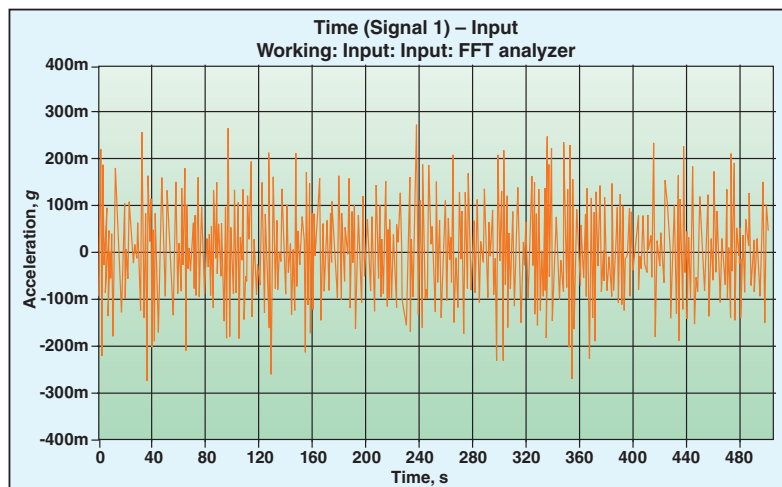

FIGURE 1. Plots of acceleration of the equipment versus time can be used to interpret pump vibration over relatively long time intervals
Signal analyzers are used to provide power to the piezoelectric transducers and to record and process the raw vibration-data signals. The collected streams of data initially are in the time domain (that is, waveforms described in terms of amplitude versus time; Figure 1). Most modern versions of signal analyzers also process the complex raw-data signals internally into the typically more data-friendly format of amplitude versus frequency, by rapidly performing a mathematical operation known as the Fourier transform (FT).
The signal analyzer displays the raw vibration-data waveform signal as a continuous plot of vibration amplitude versus time. Usually this type of plot is a complex combination of superimposed sine waves. It is used to interpret pump vibration over relatively long time intervals, or during pump transient events when variations of the speed and load are present (Figure 1 and 6). This plot type is also used when